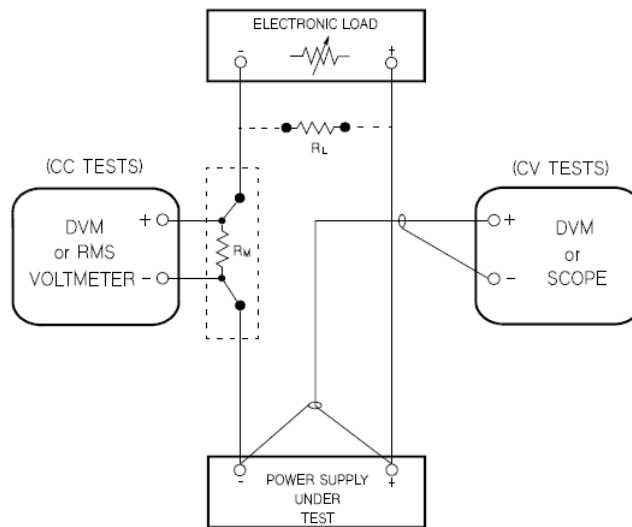
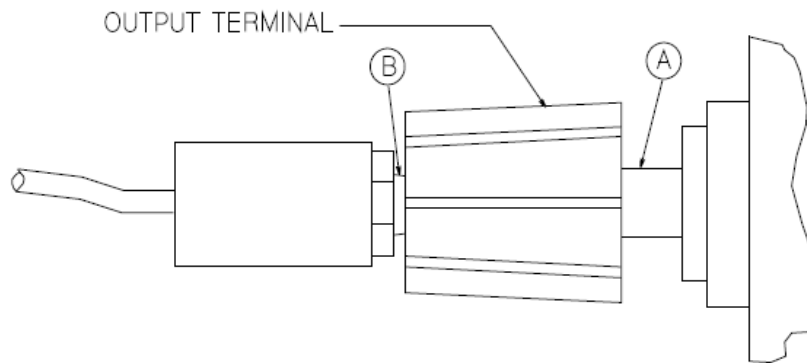

Figure 3-1 Performance verification test setup
Figure 3-2 Front panel terminal connections (side view)
To eliminate output current measurement error caused by the voltage drops in the leads and connections, connect the current monitoring resistor between the (-) output terminal and the load as a four-terminal device. Connect the current-monitoring leads inside the load-lead connections directly at the monitoring points on the resistor element (see R_M in Figure 3-1).
- 1 Turn off the power supply and connect a digital voltmeter between the (+) and (–) terminals of the output to be tested as shown in Figure 3-1
- 1** Turn off the power supply and connect a digital voltmeter between the (+) and (-) terminals of the output as shown in Figure 3-1.
- 4** Operate the electronic load in open mode (input off). Record the output voltage reading on the digital voltmeter immediately. The difference between the digital voltmeter readings in steps (3) and (4) is the CV load regulation. The difference of the readings during the immediate change should be within the limit of (4 mV)^[1] or (7 mV)^[2]
- 1 Turn off the power supply and connect a digital voltmeter between the (+) and (-) terminals of the output to be tested as shown in Figure 3-1.
- 6 Adjust the transformer to high line voltage (127 Vac for nominal 115 Vac, 110 Vac for nominal 100 Vac, or 253 Vac for nominal 230 Vac). Record the voltage reading on the digital voltmeter immediately. The difference between the digital voltmeter readings in steps (5) and (6) is the CV line regulation. The difference of the readings during the immediate change should be within the limit of (4 mV)^[1] or (7 mV)^[2].
When measuring Vrms ripple and noise, the monitoring device should be plugged into the front of the terminals at (B) in Figure 3-2. Use the coaxial cable and BNC female to banana plug adapter to connect the monitor device to the power supply. To reduce the measurement error caused by common mode noise, it is recommended that you use a common mode choke between the cable and the BNC adapter. The common mode choke is constructed by inserting coaxial cable into Ferrite Toroidal core. The load resistor should be connected to the terminal at (A) in Figure 3-2. Twisted leads between the load resistor and the power supply helps reduce noise pickup for these measurements.
- 1 Turn off the power supply and connect the output to be tested as shown in Figure 3-1 to an oscilloscope (ac coupled) between (+) and (-) terminals. Set the oscilloscope to AC mode and bandwidth limit to 20 MHz. Connect a resistive load (2.0 Ω)^[1] or (12.5 Ω)^[2] to the terminal at (A) in Figure 3-2.
- 1 Turn off the power supply and connect the output to be tested as shown in Figure 3-1 with an oscilloscope. Operate the electronic load in constant current mode.